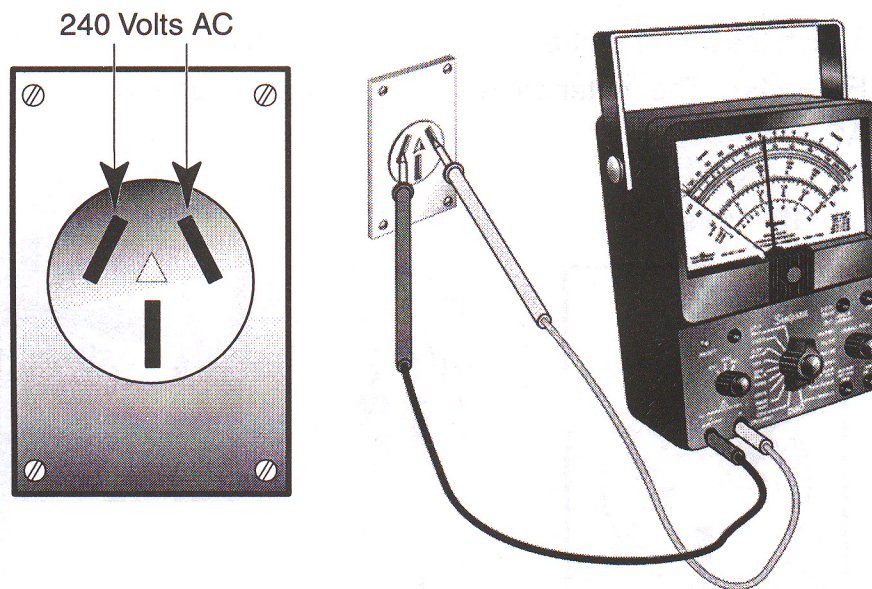

Figure 18
4. Touch the meter probe tips to the indicated outlet openings (see Figure 18). The meter should measure approximately 240 volts AC.